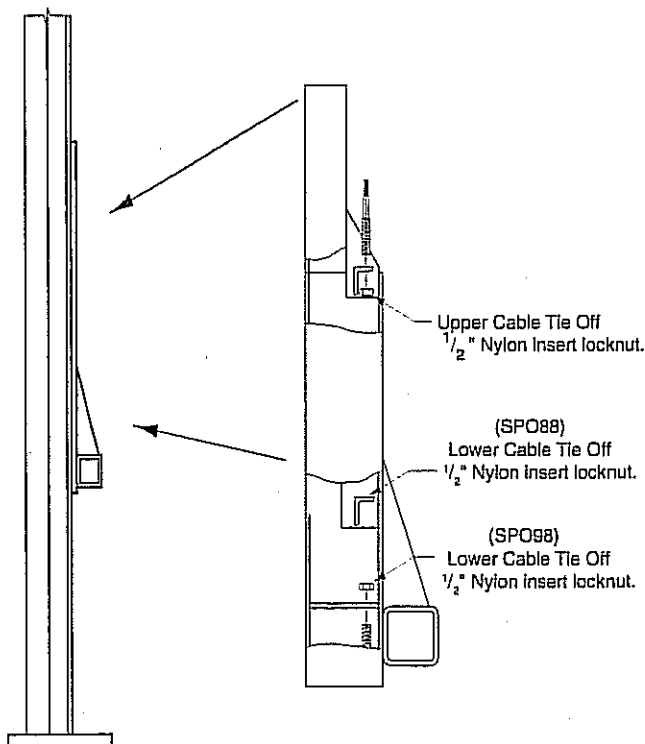

Fig. 15
20. **Final Adjustments:** Raise lift to check equalizer cable tension. Below carriage, grasp adjacent cables between thumb and forefinger, with about 15 lbs. effort you should just pull the cables together. Adjust at upper tie-offs Fig. 15.